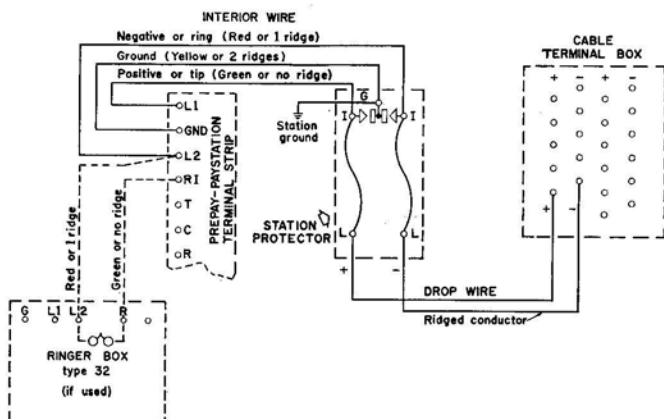

Figure 3. Connection diagram.
- (8) Push a loop of the interior wire thru hole *D*.
- (9) Carry the interior wire up the channel at the rear of the backboard.
- (10) Push the end of the interior wire thru hole *C*.
- (11) Mount the backboard using the anchor screws.
- (12) Unlock the upper housing of the paystation and lift the housing off.
(13) Mount the lower housing and backplate onto the backboard with $\frac{1}{4}$ "-20 flat-head machine screws using holes *A* which have threaded inserts to take the $\frac{1}{4}$ "-20 screws.
(14) Make sure that the loop or end of the interior wire comes thru the slot in the backplate by the terminal strip without pinching.
(15) Remove the cover from the ringer box.
(16) Mount the ringer box on the bottom part of the backboard, using wood screws.
(17) Make sure again that the interior wire has free access to the ringer box without being pinched.
(18) Connect as shown in figure 3.
(19) Replace cover on ringer box.
(20) Replace upper housing on paystation and lock.